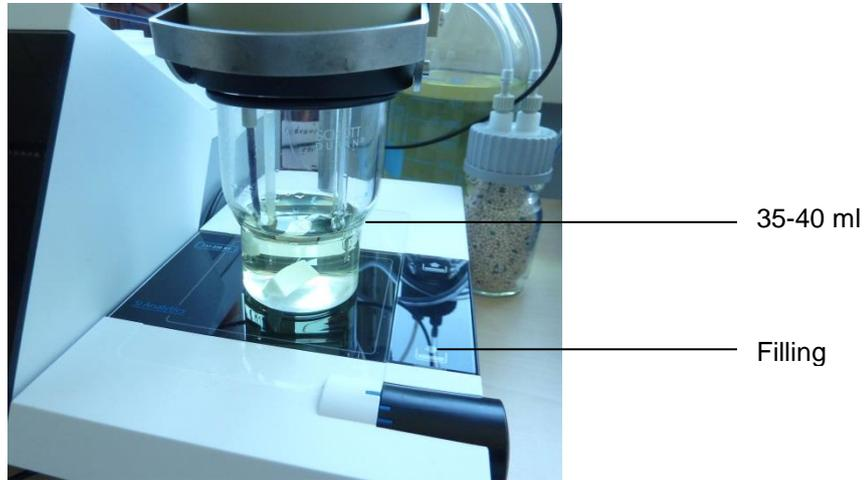

Fig. 30
**i** Pump solvent (approx. 35-40 ml) into the titration vessel until the titration tip and the electrode are completely immersed (Fig.30)